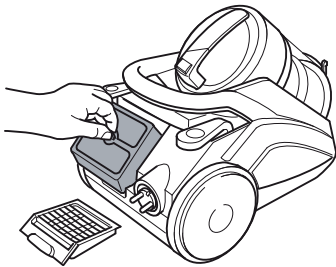

Fig. 33
The **hygienic exhaust filter** (Fig. 33) filters the finest particles out of the exhaust air.
3. Remove the hygienic exhaust filter by pulling the tab provided for this purpose (Fig. 33).
6. Put the cleaned hygienic exhaust filter back into its receptacle with the tab pointing up (Fig. 33).